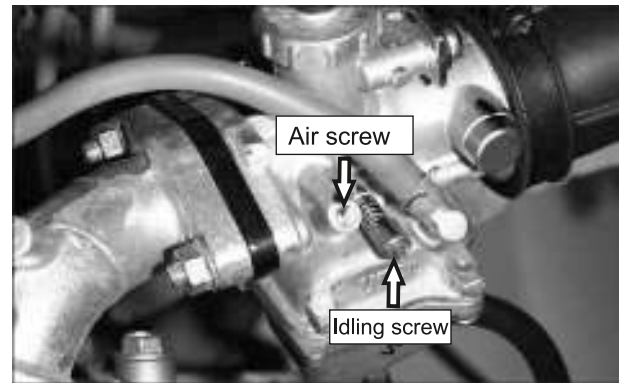

Fig. 2.54
- Close the air screw fully by rotating it clockwise.( Fig. 2.54)
- Now, slowly take out by rotating the air screw in anticlockwise direction by 1¼ turn out. (Fig. 2.54)